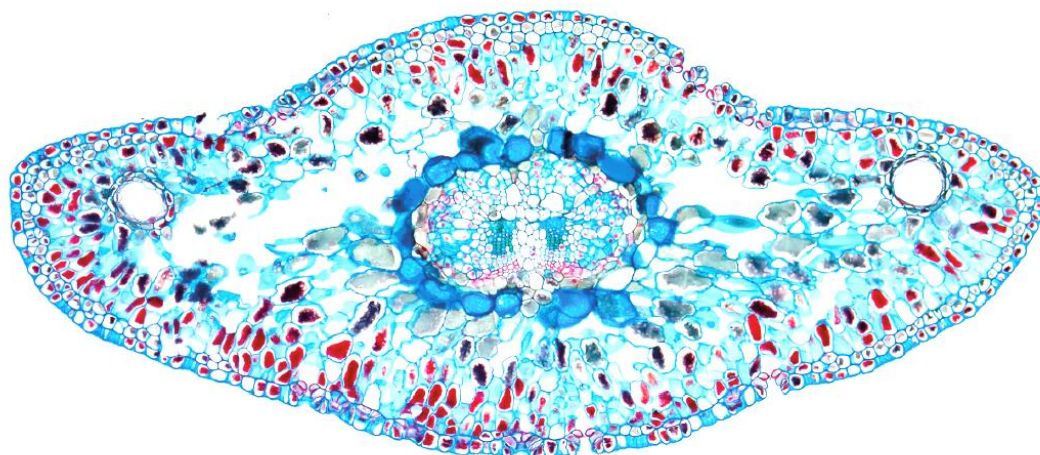
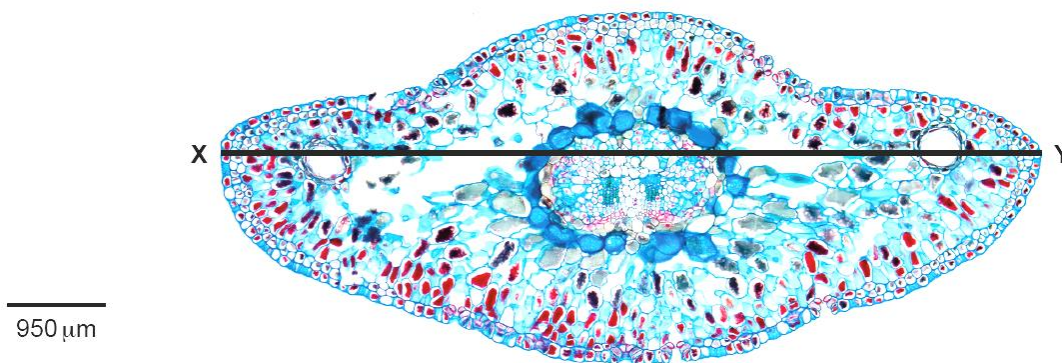

Fig. 3.1
Fig. 3.2
- (b) Fig. 3.1 is a photomicrograph of a stained transverse section through a different type of leaf from J1.
Identify **three** observable **differences** between the leaf section on J1 and the leaf section in Fig. 3.1.
- (c) Fig. 3.2 is the same photomicrograph as that in Fig. 3.1, with the line X–Y drawn across its width.
In Fig. 3.2 the line X–Y is drawn across the width of the leaf. Use the line X–Y and the scale bar to calculate the actual width of the leaf.